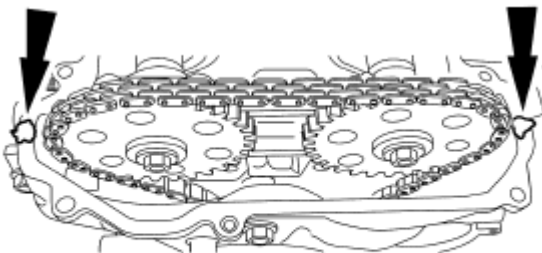

Fig. 357: Locating Silicone Gasket Locations
57. Apply silicone gasket and sealant to the locations shown in **Fig. 357**.